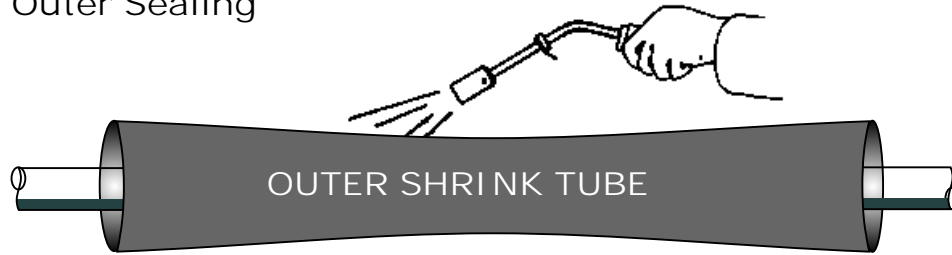

Fig 11
21. Refer back to section 18 and Fig 11 for the installation of the Outer Shrink Tube.